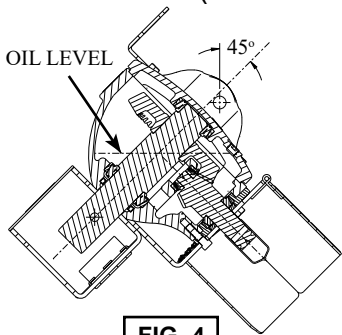

FIG. 4
STEP 8: Remove the fill plug at the top of the gearbox, and fill the gearbox with two quarts of multigear lubricant EP SAE 140 (or EP SAE 85W/140) **before operating the gearbox**. Tip the gearbox 45 degrees (avoid pinch points as gearbox pivots), and check the level at the plug (see FIG. 4). **DO NOT OVERFILL!** Replace the plug before operating the digger.